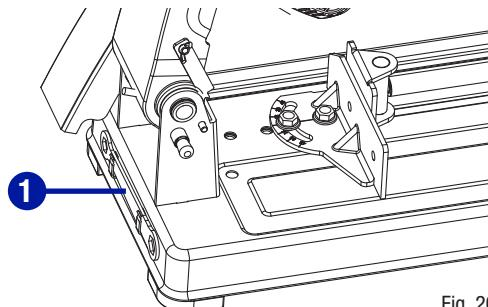

Fig. 20
### STORAGE OF THE ARBOUR WRENCH (Fig. 20)
Store the arbour wrench (1) on the rear of the chop saw when not in use, as shown in Fig. 20.